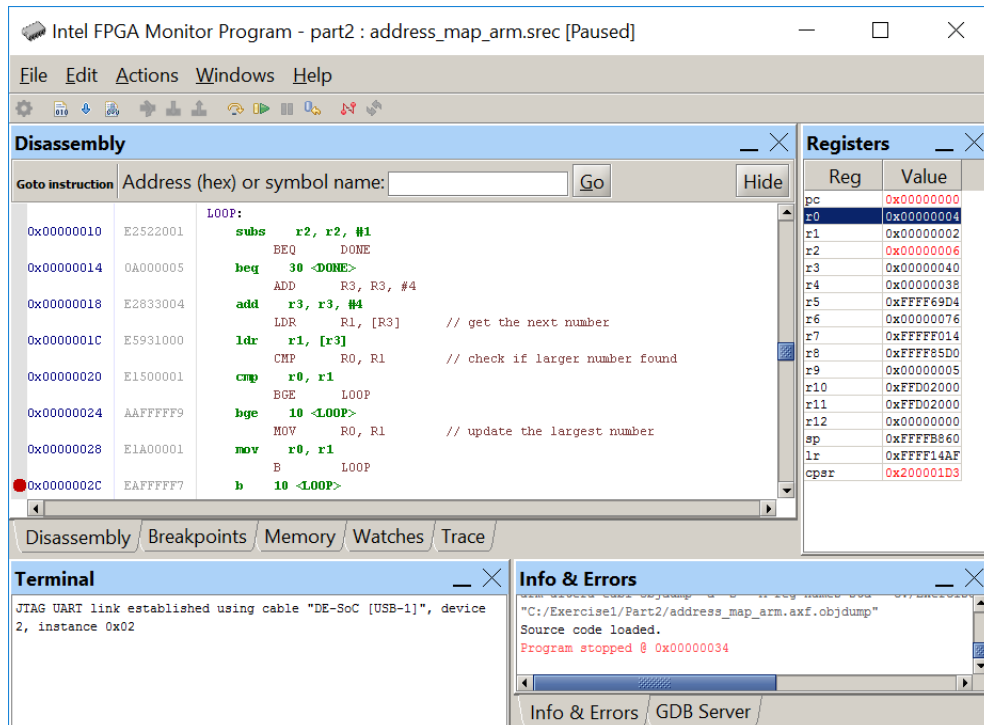

Figure 13: Setting a breakpoint.
8. Now set a breakpoint at address 0x0000002C by clicking on the gray bar to the left of this address, as illustrated in Figure 13. Restart the program and run it again. Observe the contents of register R0 each time the instruction at the breakpoint, which is **B LOOP**, is reached.